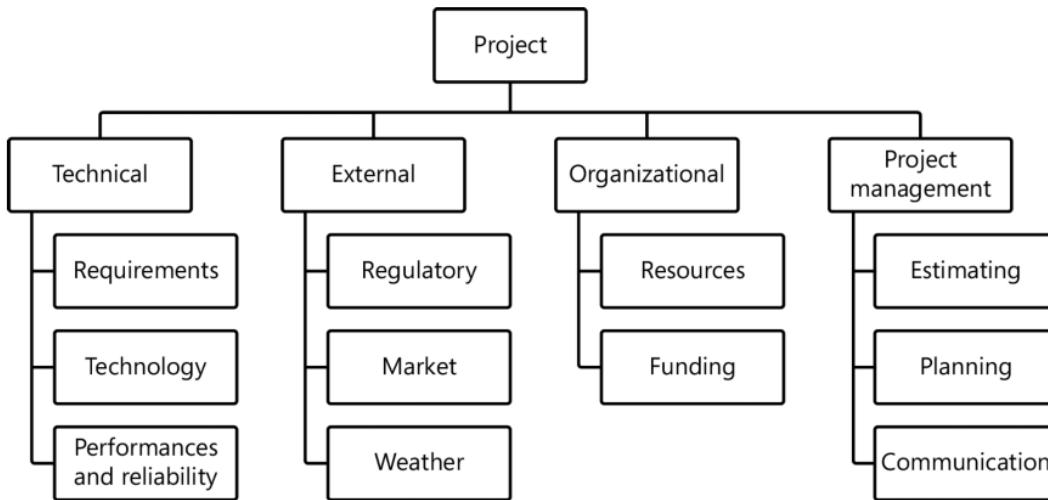

FIGURE 9-2 The development of risk categories using a risk breakdown structure.
- An initial analysis of the individual risk categories using a *risk breakdown structure* (RBS). Figure 9-2 shows an example of a risk breakdown structure.